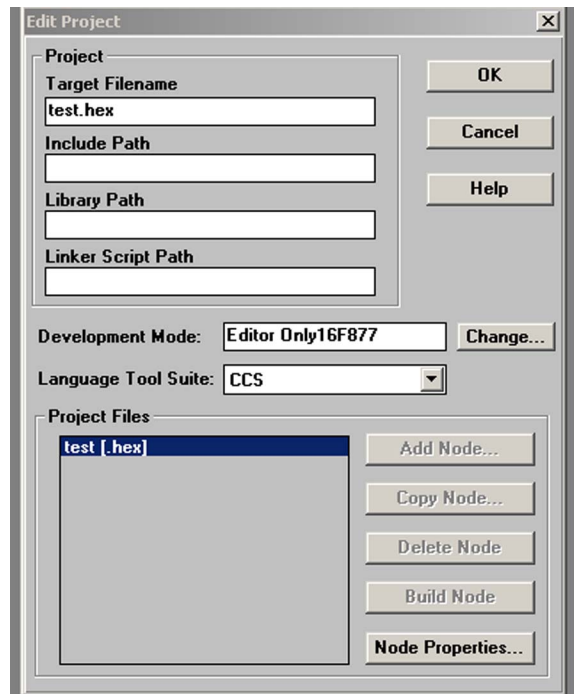
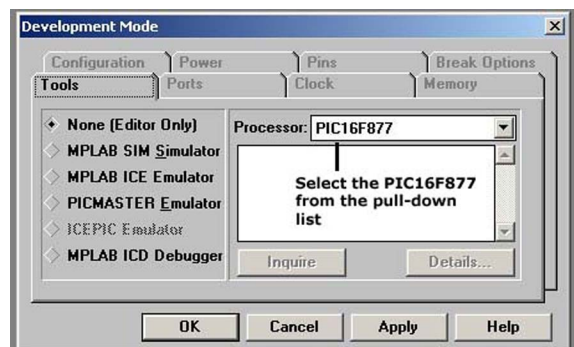

Figure 2: MPLab: New Project
Figure 3: MPLab: Selecting the Development Mode
- Select the correct processor, the PIC16F877. As seen in figure 2, click on the *Change* button next to development mode. In the popup dialog, as seen in figure 3, click on *None (Editor Only)* and the *PIC16F877* processor from the pull-down list.